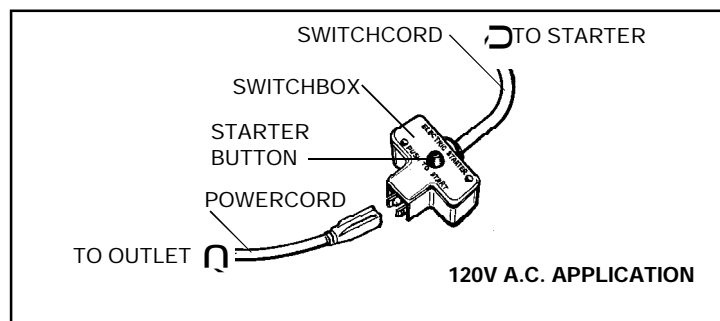

Figure 5
ELECTRIC STARTER (see Figure 5)
B. Plug other end of power cord (see Figure 5) into wall receptacle.
F. Push starter button (see Figure 5) or turn ignition switch key (see equipment manufacturer's instructions) to crank engine.
I. Disconnect power cord (see Figure 5) from wall receptacle first, and then from switchbox on engine.